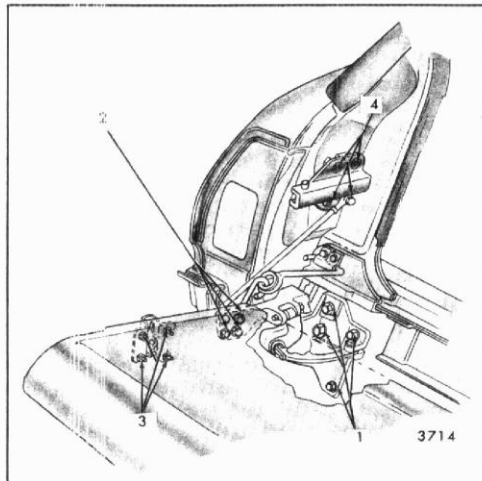

Fig. 9-35-Dual Acting Tail Gate Left Upper and Lower Hinge, Lock, and Torque Rod Attachments
1. Lower Left Hinge Assembly at Body Attachment - Adjustable "up" or "down" and "laterally" ("1", Figure 9-35).
2. Lower Left Hinge Assembly - At gate attachment - adjustable "forward" or "rearward" ("2", Figure 9-35).
3. Upper Left Hinge and Lock Assembly - Adjustable "up", "down", "forward" and "rearward" ("3", Figure 9-35).
4. Upper Left Hinge and Striker Assembly - Adjustable "in" or "out" from body pillar ("4", Figure 9-35).